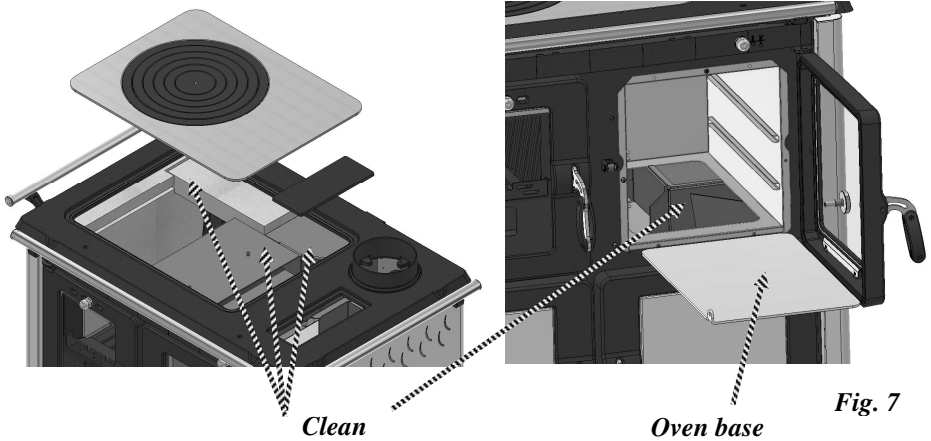

Fig. 7
SHAKING FOYER GRATE (Fig. 7)
UNDER OVEN FUME CONVEYER CLEANING (Fig.7)
- Once the cleaning operations have been finished re-assemble the top plate, paying attention to the correct assembly of the different parts. Attention to the positioning from the bent part upwards, see the image Fig.7.